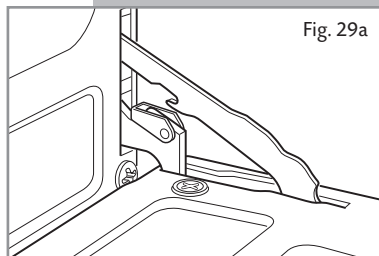
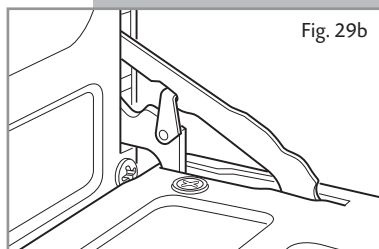

Fig. 29a
Fig. 29b
- The swivel retainers of the rh and lh hinges (fig. 29a) are hooked onto the metal bar above them (fig. 29b).